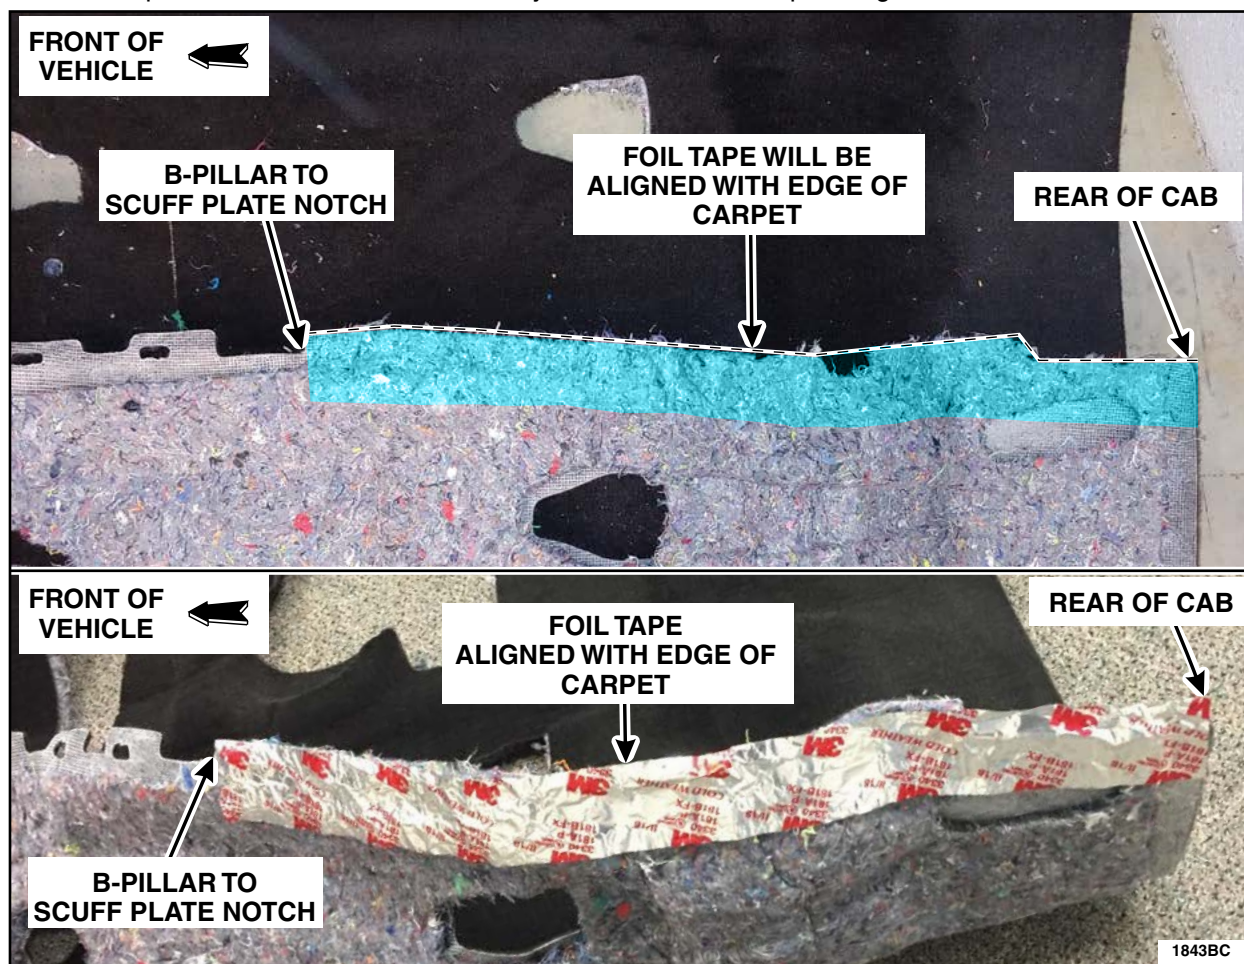
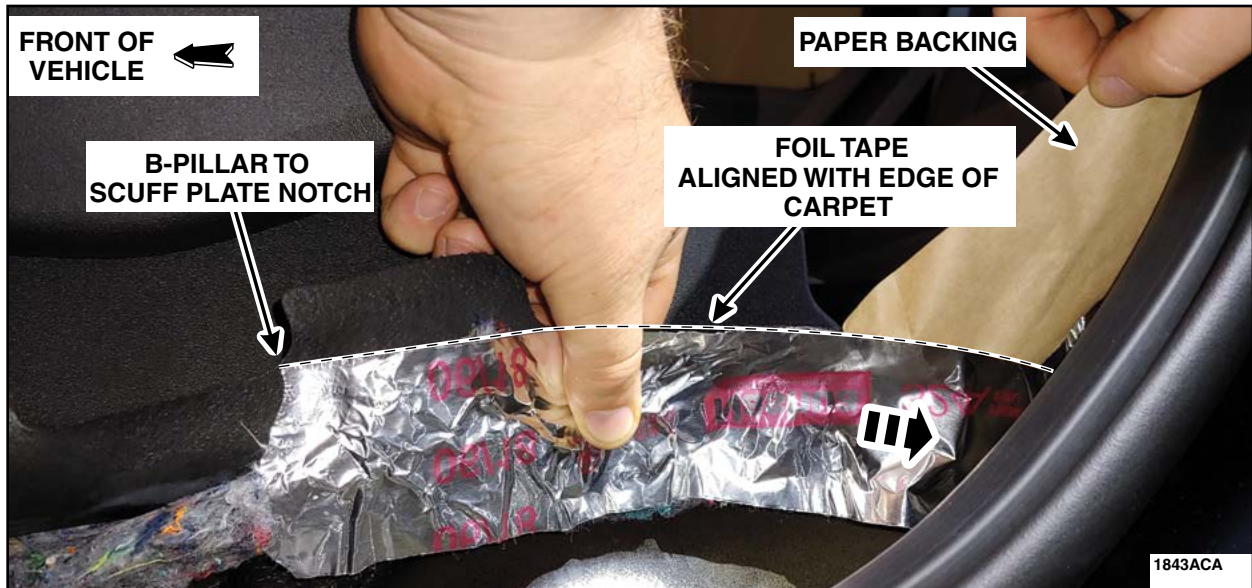

FIGURE 2
FIGURE 3
5. Apply the first length of foil tape. See Figures 2 and 3.
- a. Position the first length of tape under the carpet and align with the edge of the carpet and the rear edge of the B-pillar to scuff plate notch. See Figure 2.
- b. Start from the front, peeling the paper backing off of the tape while pressing the tape into the insulation and carpet. See Figure 3.
- c. Continue applying the tape, ending at the rear of the vehicle cab. See Figure 3.**IMPORTANT! Ensure the edge of the tape stays aligned with the edge of the carpet while applying the foil tape. See Figure 2.**